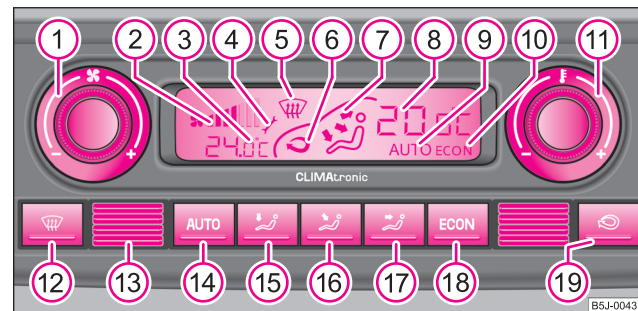

Fig. 85 Climatronic: Control elements
- Press the button **AUTO** ⇒ fig. 85.
Press and hold the buttons **ECON** and **AUTO** ⇒ fig. 85. The information in the desired temperature measuring unit appears in the display.
- Press the button  ⇒ page 99, fig. 85.
- Turn the control dial ① ⇒ page 99, fig. 85 to the left (reduce blower speed) or right (increase blower speed).